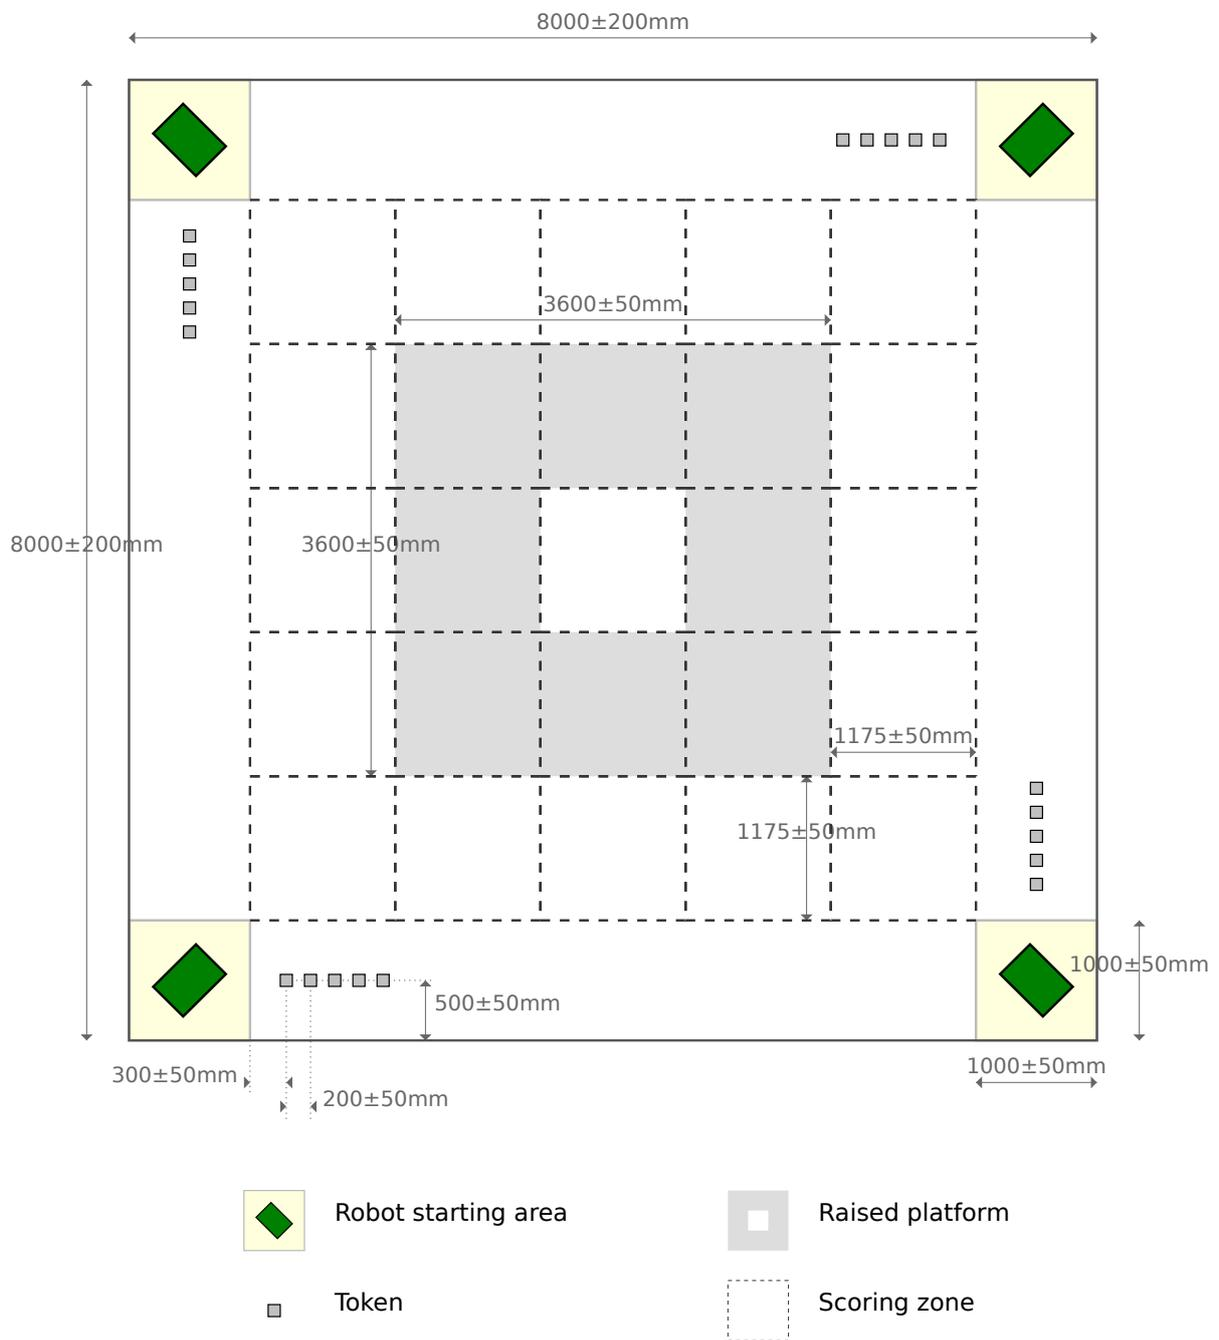

Figure 2: A bird's-eye view of the arena. All dimensions are in millimetres.
3.3.1 The match arena floor, overall, is an $8\text{m} \times 8\text{m}$ square, as shown in figure 2. The tolerance of these two dimensions is $\pm 0.2\text{m}$.
- 3.4.1 There are 25 zones in the arena, in a 5 by 5 grid centred within the arena and aligned with its axes. Each zone is $1175mm \pm 50mm$ by $1175mm \pm 50mm$. The arrangement and dimensions of these zones can be seen in figure 2.
- 3.5.2 There will be 40 tokens in the arena: 10 associated with each starting area. These will be arranged as shown in figure 2 at the start of a match.